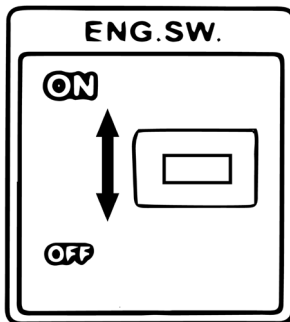

Figure 11: Motor switch
- Move the red motor switch to the "ON" position. (Fig. 11)